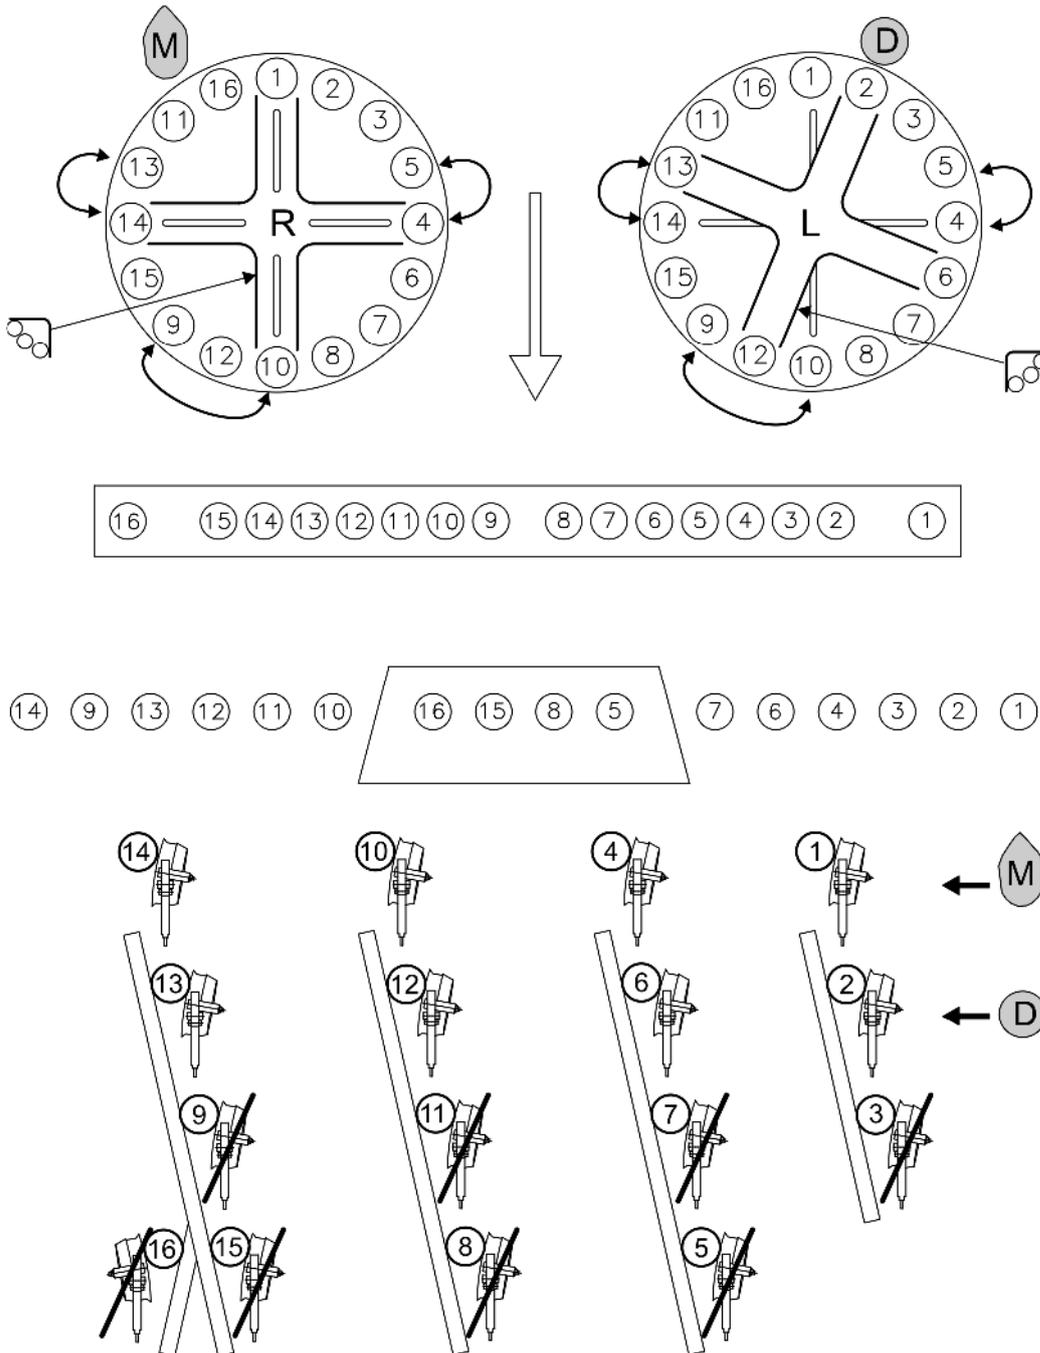

Fig. 36
- Maize ^M: Install the locking plates  according to Fig. 36